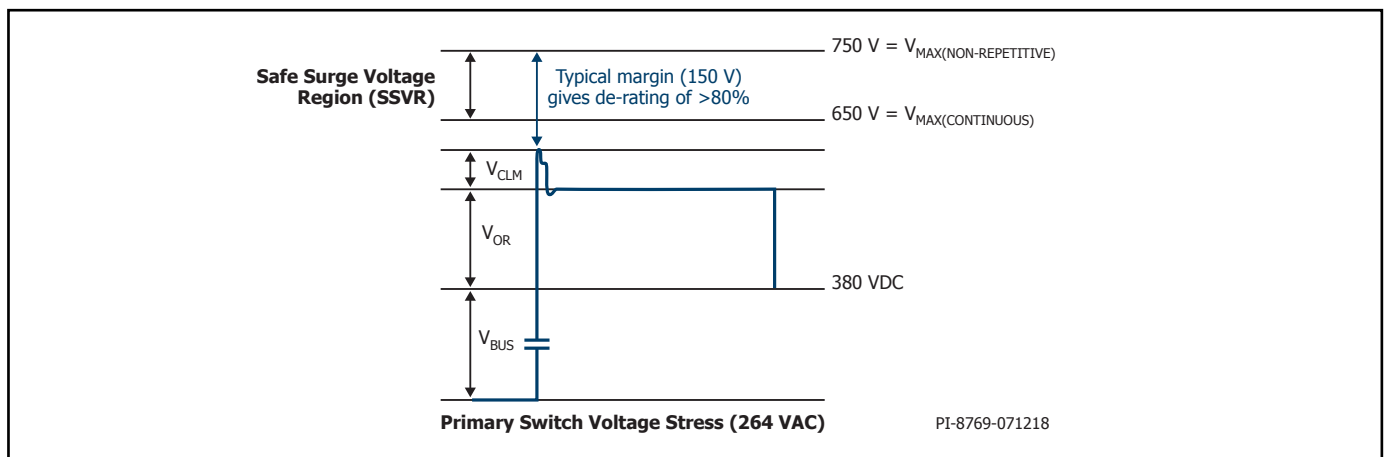

Figure 21. Peak Drain Voltage for 264 VAC Input Voltage (Applicable for LYT6078C, LYT6079C and LYT6070C).
4. A series connection of a small resistor and ceramic capacitor ( $<22\ \text{pf}$ ) across the primary (Figure 21) or across the secondary winding ( $<100\ \text{pf}$ ) reduces conducted and radiated EMI. Larger capacitor values may increase no-load consumption.
For a flyback converter configuration, typical voltage waveform at the DRAIN pin of the IC is shown in Figure 21.
In addition to  $V_{BUS} + V_{OR}$ , the drain also sees a large voltage spike at turn off that is caused by the energy stored in the leakage inductance of the primary winding. To keep the drain voltage from exceeding the rated maximum continuous drain voltage, a clamp circuit is needed across the primary winding. The forward recovery of the clamp diode will add a spike at the instant of turn-OFF of the primary switch.  $V_{CLM}$  in Figure 21 is the combined clamp voltage including the spike. The peak drain voltage of the primary switch is the total of  $V_{BUS}$ ,  $V_{OR}$  and  $V_{CLM}$ .